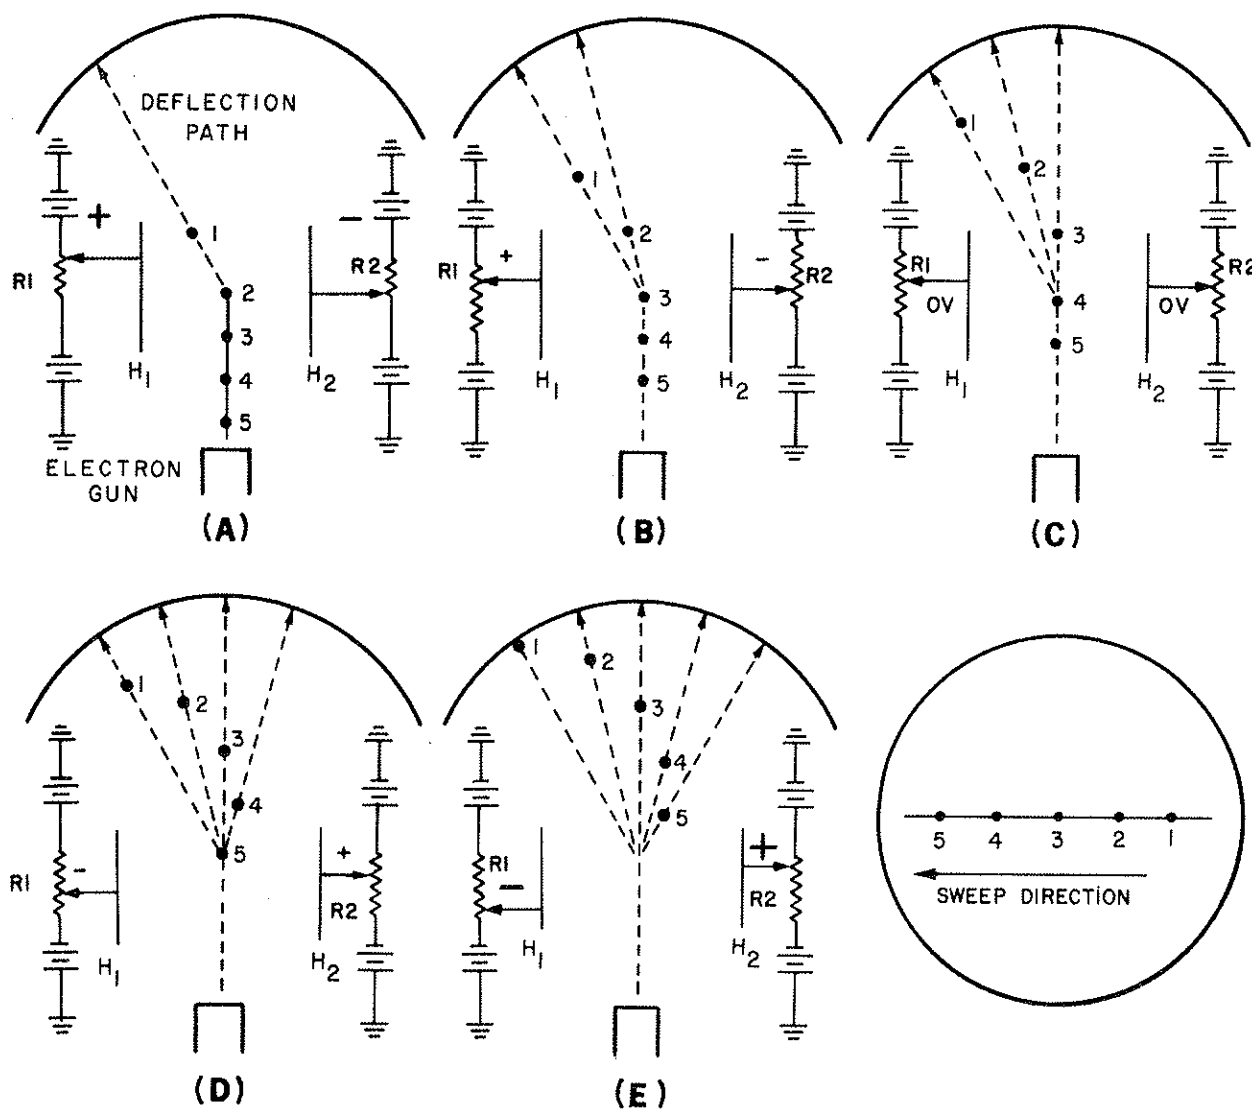

Figure 2-25.—Horizontal deflection.
A spot of light on the left-hand side of the CRT screen, however, is no more useful than a spot of light in the center of the screen. To be useful, this spot will have to be converted to a bright line, called a sweep, across the face of the CRT screen. The manner in which this is done will be explained using figure 2-25. In view (A), five electrons are emitted in sequence, 1 through 5, by the electron gun. The left deflection plate (H_1) has a large positive potential on it while the right plate (H_2) has a large negative potential on it. Thus, when electron 1 reaches the area of the deflection plates, it is attracted to the left plate while being repelled from the right plate. In view (B), electron 2 has reached the area of the deflection plates. However, before it arrives, $R1$ and $R2$ are adjusted to make the left plate less positive and the right plate less negative. Electron 2 will still be deflected to the left but not as much as electron 1. In view (C), electron 3 has reached the area of the deflection plates. Before it got there, $R1$ and $R2$ were adjusted to the mid-point. As a result, both plates have 0 volts applied to them. Electron 3 is not deflected and simply travels to the center of the CRT screen. In view (D), electron 4 has reached the area of the deflection plates. Notice that $R1$ and $R2$ have been adjusted to make the left plate negative and the right plate positive. As a result, electron 4 will be deflected to the right. Finally, in view (E), the left plate is at its maximum positive value. Electron 5 will be deflected to the extreme right. What you see when you are facing the CRT is a bright luminous line, as shown in view (F). While this description dealt with only five electrons, in reality the horizontal line across a CRT face is composed of millions of electrons. Instead of seeing five bright spots in a line, you will see only a solid bright line.